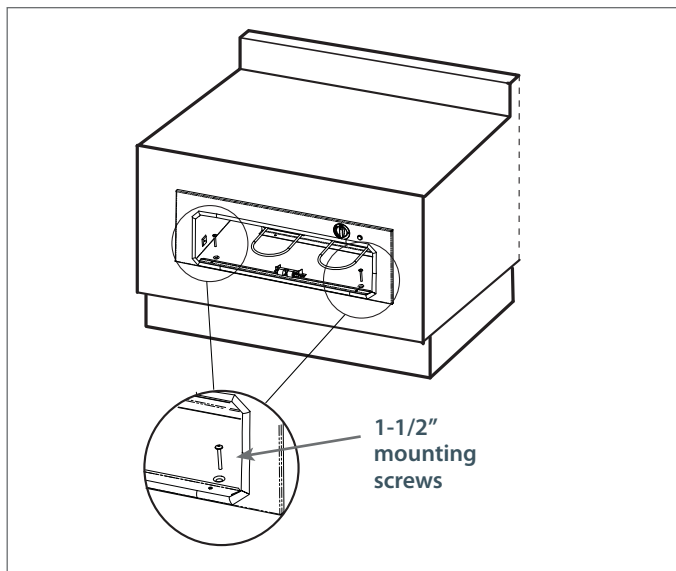

Fig. 13
3. Use the two supplied 1-1/2" long screws through the two embossed holes (see Fig. 13) to secure the front of the Warming Drawer.